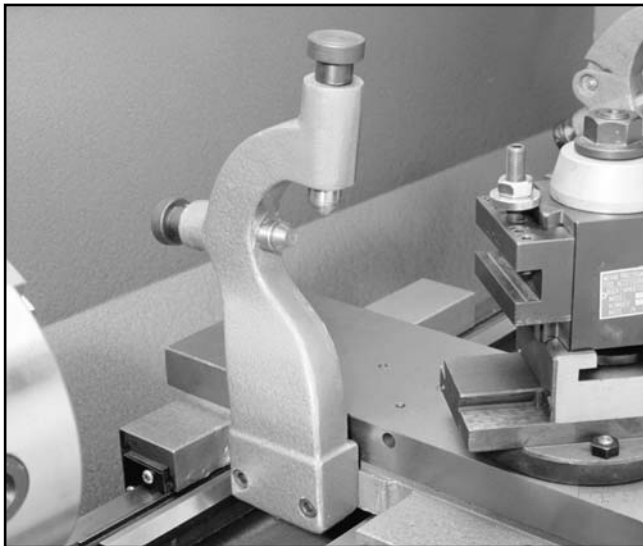

Figure 6. Follow rest secured to saddle.
1. The follow rest is secured to the saddle with two cap screws. **See Figure 6.**